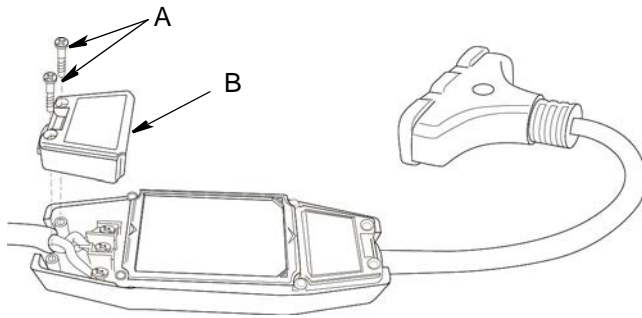

FIG. 34
2. Loosen two Phillips #2 screws (A) on GFCI cover (B). Remove cover (FIG. 34).
3. Reassemble GFCI cover (B) with two Phillips #2 screws (A) (FIG. 34).